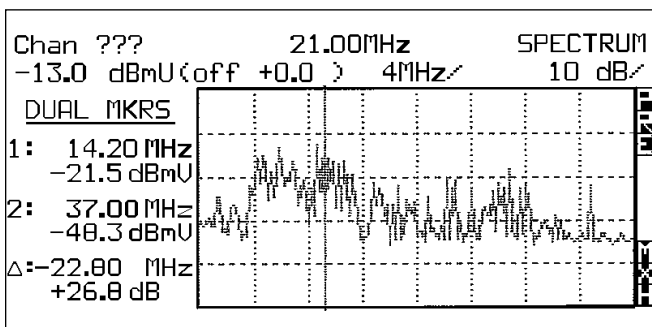

Figure 4. Impulse Noise generated by a hair dryer.
- **Impulse Noise** is a special case of ingress caused by electromagnetic interference from hair dryers, microwave ovens, air-conditioners and any other high-current, low-shielded device. It's best described as bursts of random noise as shown in Figure 4.